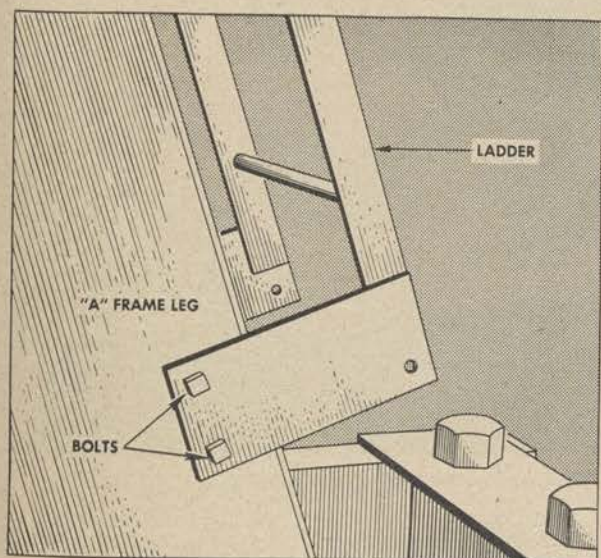

Figure 38. Detail of ladder assembly.
(5) *Ladder assembly.* A ladder for access to the platform and A-frame floodlight is shipped in three sections, two pieces No. 11 and one piece No. 12. Bolt these sections to the frame as shown in figure 38.